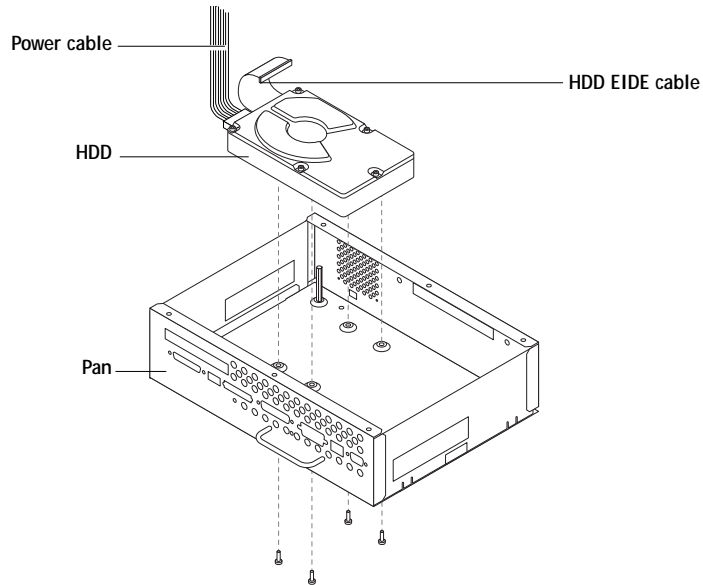

FIGURE 4-11 Replacing the HDD
4. With the pan on its side, remove the four screws on the bottom of the pan that secure the HDD (see Figure 4-11).
3. With the pan on its side, align the four holes in the bottom of the HDD with the holes in the bottom of the pan and replace the four screws you removed earlier (see Figure 4-11 on page 4-22).